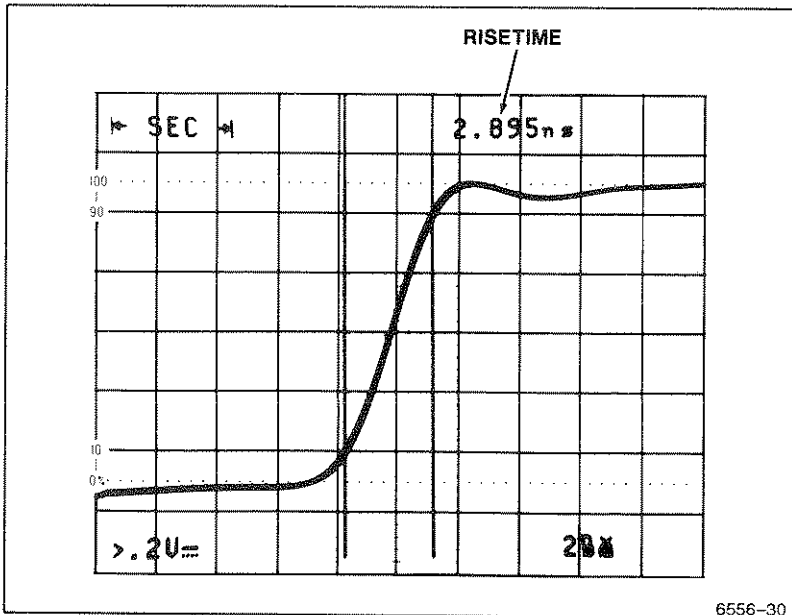

Figure 5-7. Rise time measurement.
6. Advance the SEC/DIV setting to stretch out the rising edge of the waveform as much as possible to improve the cursor placement accuracy (see Figure 5-7).
- Use the ← OR DELAY control to align the first cursor to the rising edge at the point it crosses the 10% reference graticule line. Then use the → control to align the second cursor to the point the rising edge crosses the 90% graticule line and read the rise time displayed in the top line of the crt readout (see Figure 5-7).